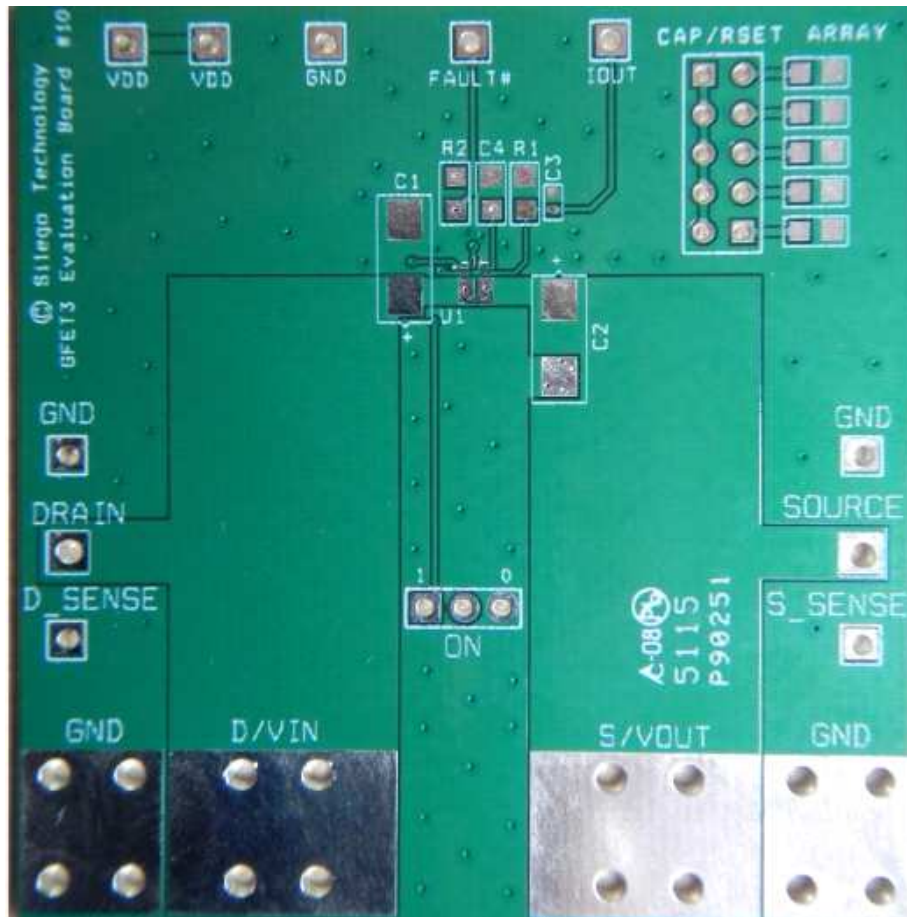

Figure 4. SLG59M1709V Evaluation Board.
2. Since the VIN and VOUT pins dissipate most of the heat generated during high-load current operation, it is highly recommended to make power traces as short, direct, and wide as possible. A good practice is to make power traces with an absolute minimum widths of 15 mils (0.381 mm) per Ampere. A representative layout, shown in Figure 4, illustrates proper techniques for heat to transfer as efficiently as possible out of the device;
A GreenFET Evaluation Board for SLG59M1709V is designed according to the statements above and is illustrated on Figure 4. Please note that evaluation board has D\_Sense and S\_Sense pads. They cannot carry high currents and dedicated only for  $R_{DS(ON)}$  evaluation.